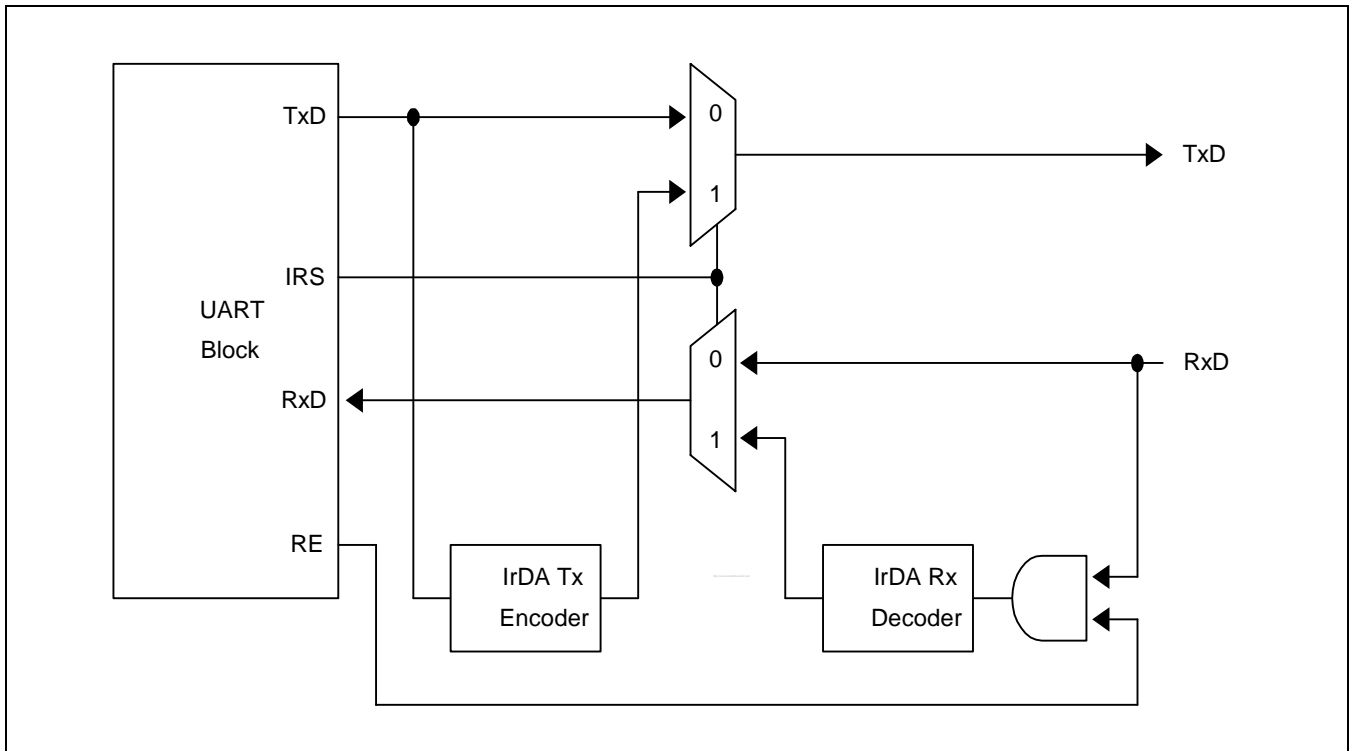

Figure 10-4. IrDA Function Block Diagram
The S3C2413X UART block supports infra-red (IR) transmission and reception, which can be selected by setting the Infra-red-mode bit in the UART line control register (ULCONn). Figure 10-4 illustrates how to implement the IR mode.